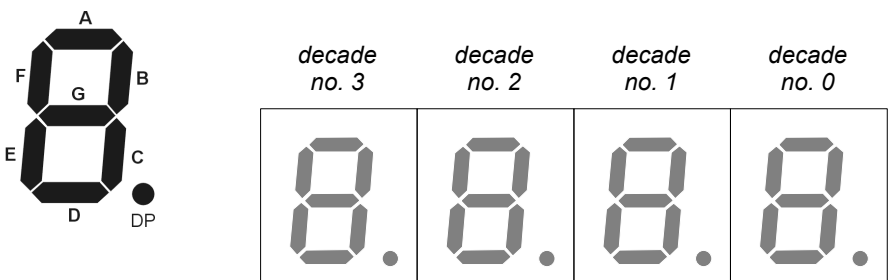

Figure 5.1. Decade and segments layout
- in „**byte mode**“ this register drives directly segments of the display. Higher byte of register 01 drives decade 0 (most right) and lower byte drives segments of decade 1 (see Figure 5.1). While particular bits are set to 1 corresponding segments light (see Tab.5.1).. In this mode register accepts values of full range 0000h ÷ FFFFh.
Register 02h - In „**decimal mode**” lower byte of this register defines decimal point position (which decade will display decimal point - see Figure 5.1). Thanks to this function it is possible to display fractional values. For example if value 007Ch (decimal 124) is stored in register 01h, it causes of displaying digits 1, 2 and 4 on suitable positions. If then value 0001h will be stored in register 02h, is will turn on decimal point on decade no. 1, what results by displaying of value " 12.4", with dimmed most left decade. If value 0003h will be written to reg. 02h then value "0.124" will be displayed. Additionally higher byte of register 02h decides about interpretation of reg. 01h value. If higher byte of register 02h equal to 00h, then decimal value of register 01h content will be displayed. If higher byte of register 02h is equal to one of values from Tab. 5.2, then appropriate warning will be displayed (these warnings are defined by producer), and content of register 01h will be ignored.